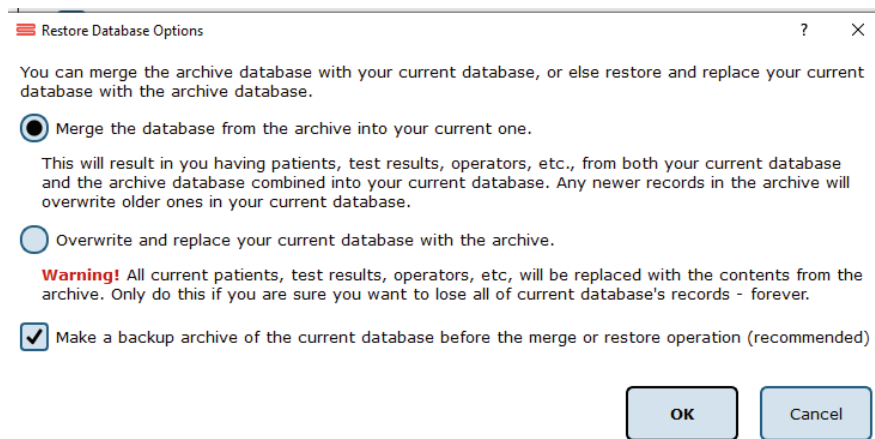

Figure 34: Merge/Archive Options
3. The program should default to merging, not restoring, an archive. Even so, ensure that the Merge circle is selected. (Figure 34)